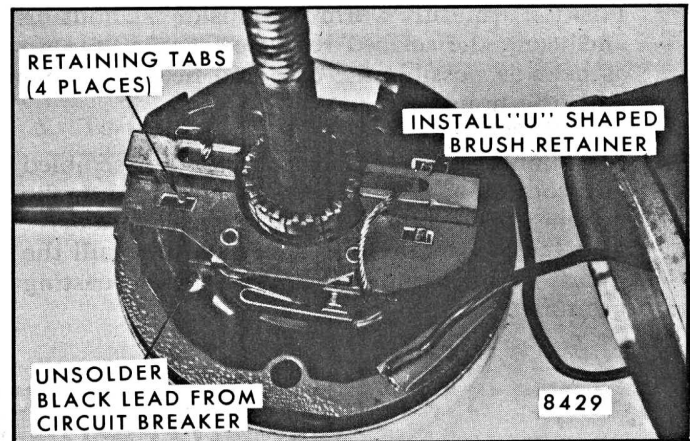

Fig. 2-112-Brushes and Brush Plate
4. Carefully note the routing, then unsolder the black lead from circuit breaker (Fig. 2-112).
5. Straighten out the four tabs that secure the brush plate to the field coil bracket (Fig. 2-112).
6. Install U-shaped brush retainer clip over brush holder that has brush lead attached to circuit breaker (Fig. 2-112).
5. Position the partially assembled brush plate over the armature shaft far enough to allow reassembly of the remaining brush in its brush holder; then position the brush plate assembly on the mounting tabs in the position shown in Figure 2-112.